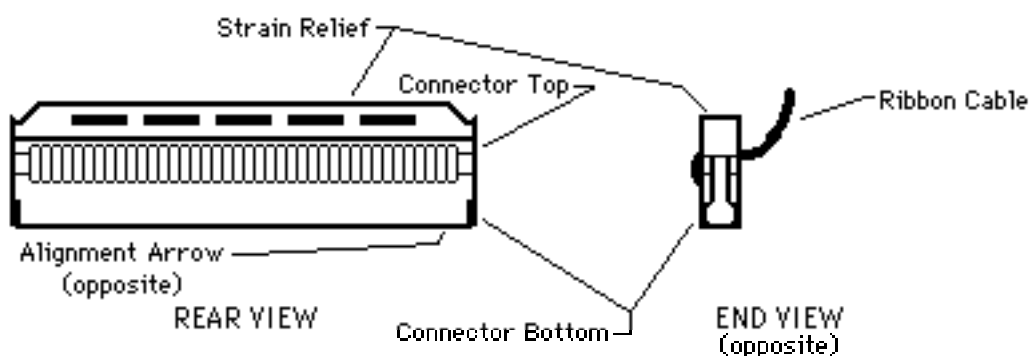

Figure 2-25. Rear view of ribbon cable connector with strain relief
3. Cut out three holes in your enclosure, and mount four #6-32 5/8 studs from inside. Refer to Figure 2-25 for mounting and cutout dimensions.